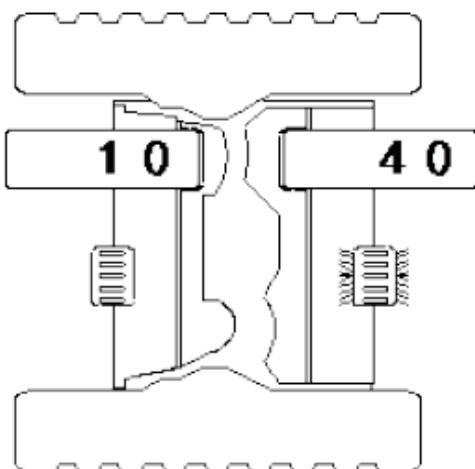

Figure 1.
- 5. Turn the wheel anticlockwise slowly and the indicators 2 and 4 will illuminate. Once an indicator is fully illuminated, lead can be placed on the rim alongside the illuminated indicator, in this case indicator 4 (outside of the rim). The lead should be posted on the outside of the rim at 12 o'clock on the upper side the rim. See figure 1: